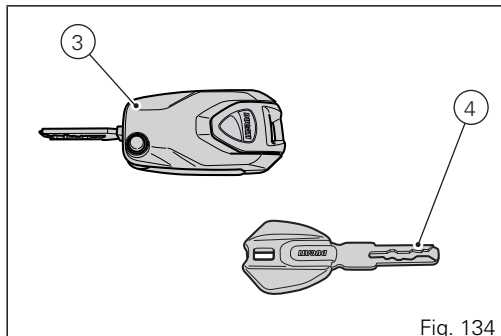

Fig. 134
Key-On can be performed by pressing button (6) on the handlebar and with the presence of the active key (3, Fig. 134).
Key-Off can be performed by pressing the button (6) on the handlebar. It can also be performed without the key (3, Fig. 134) only if motorcycle speed is equal to zero.
Key-On can be performed by pressing button (7) on the Hands free unit (1, Fig. 129) and with the presence of the active key (3, Fig. 134).
Key-Off can be performed by pressing button (7) on the Hands free lock (1, Fig. 129), also without the key (3, Fig. 134).
Key-On can be performed by pressing the red button (6) on the handlebar and with the presence of the passive key (4, Fig. 134).
Key-Off can be performed by pressing the red button (6) on the handlebar. It can also be performed without the key (4, Fig. 134) only if motorcycle speed is equal to zero.
Key-On can be performed by pressing button (7) on the Hands free lock and with the presence of the passive key (4, Fig. 134).
Key-Off can be performed by pressing button (7) on the Hands free lock (1, Fig. 129), also without the key (4, Fig. 134).
Key-On can be performed by pressing button (7) on the hands free lock (1, Fig. 129) without the presence of the keys (3, Fig. 134) and (4, Fig. 134) and entering the pin code on the instrument panel.